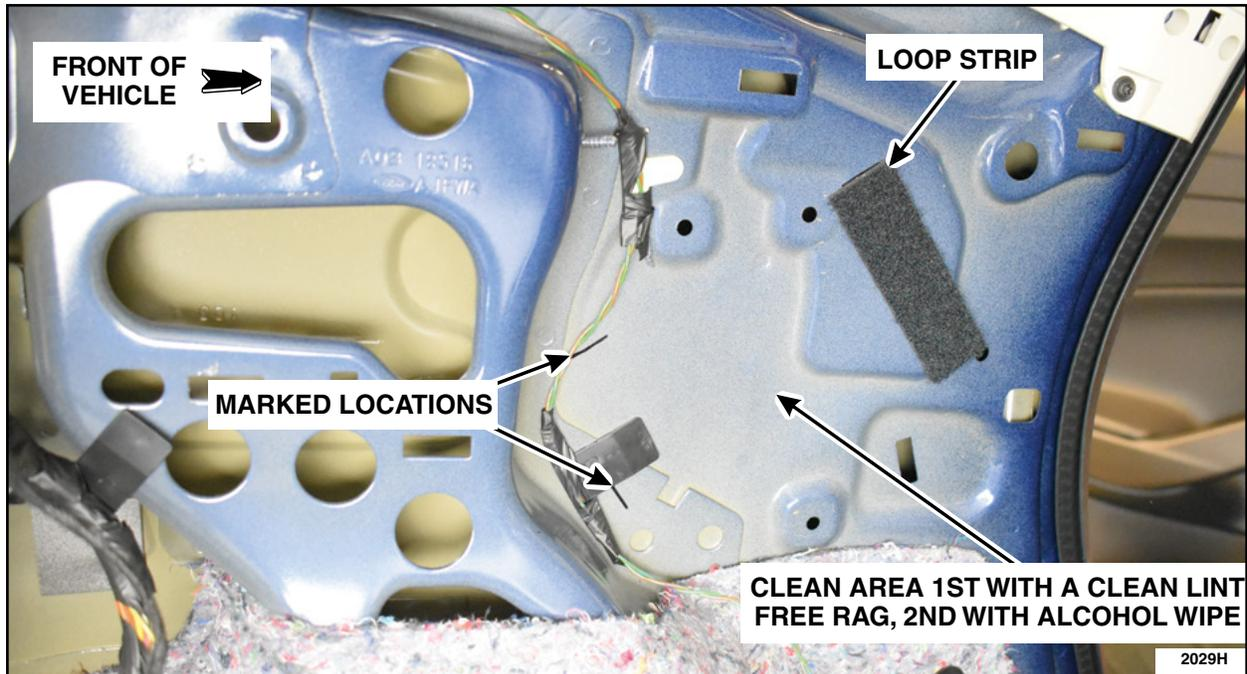

FIGURE 6
9. Clean the surface and apply loop strip. See Figure 6.